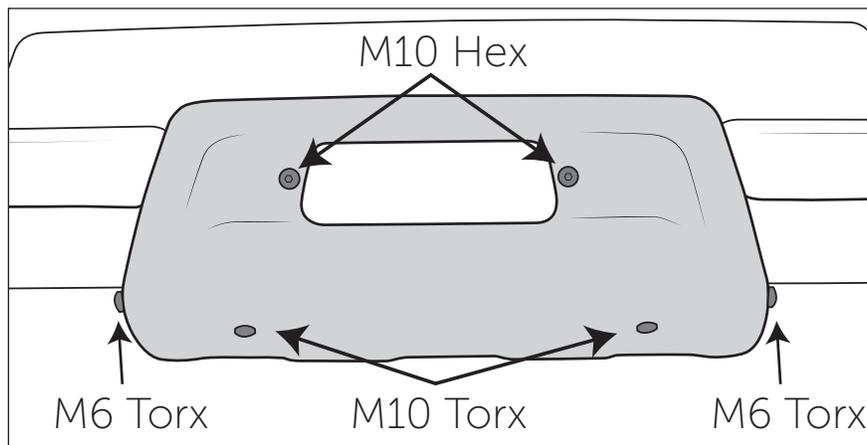

Figure 19
13. Install Bumper Skid with QTY 2 M10 hex bolts in the center and QTY 4 torx bolts in the bottom and sides (fig. 19).